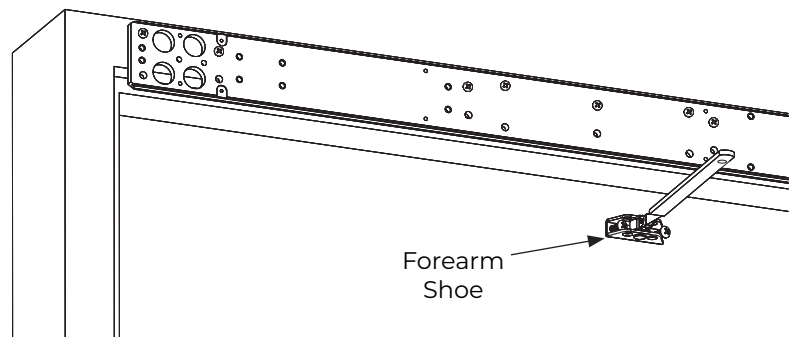

Figure 6
4. Secure forearm to door. (Figure 6)